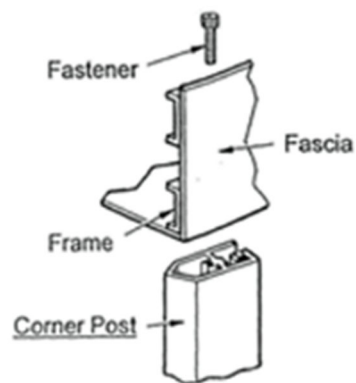

Figure 3.2
- 6) Securely fasten with 5/16" socket cap screws provided as shown in Figures 3.2 and 3.3 (If centre post is provided).